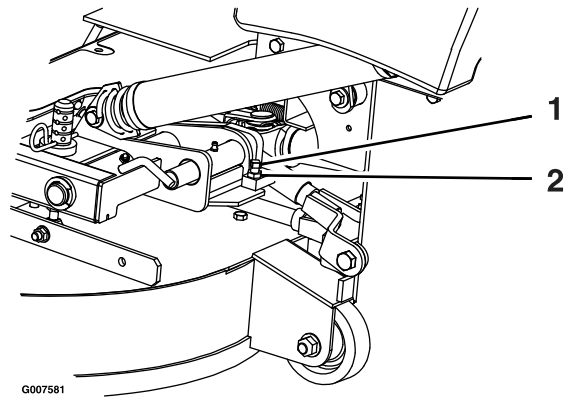

**Figure 60**
3. Loosen the 6 door hinge nuts (Figure 60).
4. Open the door and place a 3/8 inch rubber strip or 3/8 inch diameter hose between the hopper and the hopper door (Figure 60).